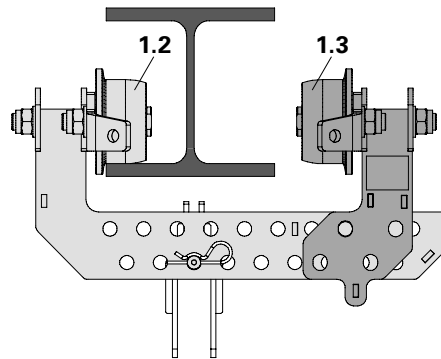

Fig. A2.02
Firstly, the flanged wheels (1.2) on the guide arm (1.1) are positioned on the flange of the steel girder (2). (Fig. A2.02)